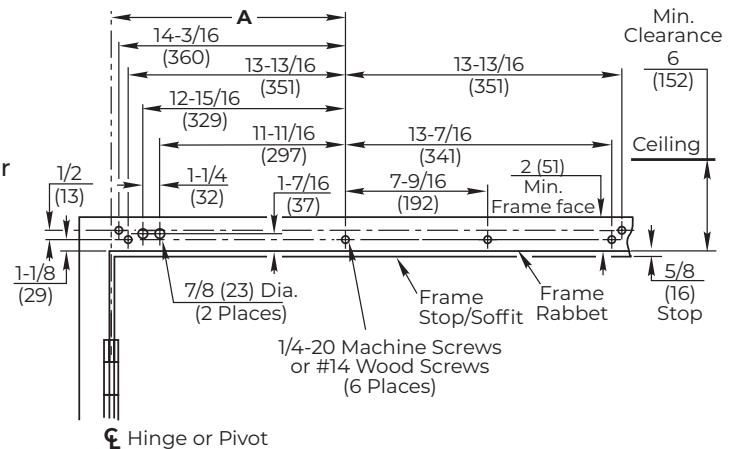

Figure 3 Right Hand Shown
4. Using detailed template on page 19, prepare six (6) holes for 1/4-20 machine screws or 14 x 2-3/4" wood screws. Blind rivet nut (by others) is suggested for unreinforced hollow metal or aluminum frames. (Figure 3)